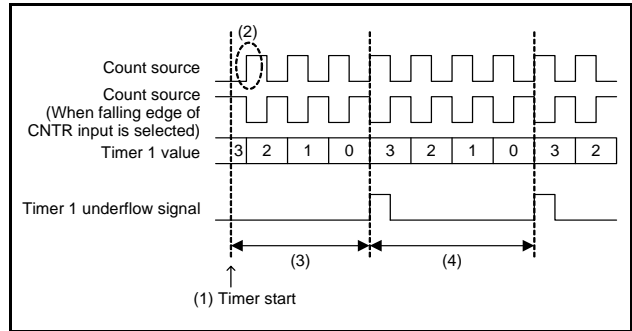

Fig 35. Timer count start timing and count time when operation starts
- Count starts from the first rising edge of the count source (2) in Figure 35 after prescaler and timer operations start (1) in Figure 35.
- Time to first underflow (3) in Figure 35 is shorter (for up to 1 period of the count source) than time among next underflow (4) in Figure 35 by the timing to start the timer and count source operations after count starts.